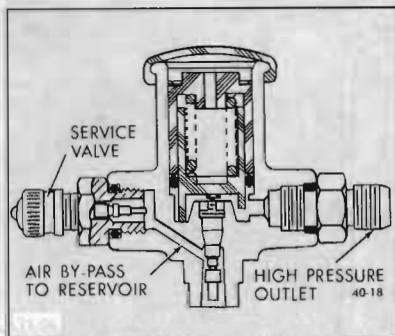

Figure 40-21—Pressure Regulator Valve
b. The pressure regulator valve is preset and limits the reservoir outlet pressure to approximately 125 psi to avoid damage to the height control valve and Superlift shocks. See Figure 40-21.